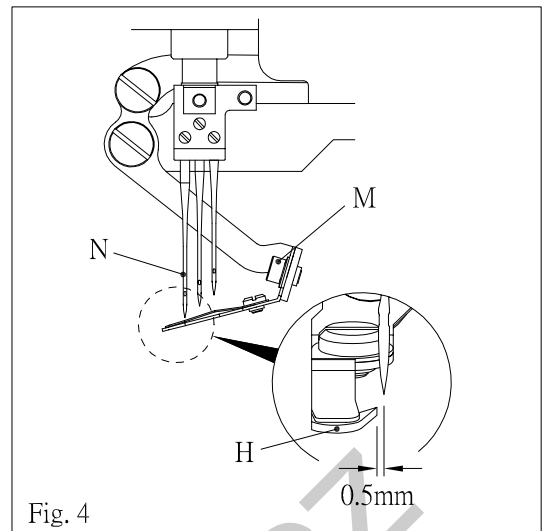

Fig. 4
There should have a tolerance of 0.5mm between hook blade (H) tip and center of leftest needle (N) by the time when hook blade (H) moving thru needles and reaching to its lowest position and the adjustment of such tolerance can be obtained by adjusting screw (M), after such adjustments, will need to double check step (3) and step (4) again. (Please refer to figure 4.)